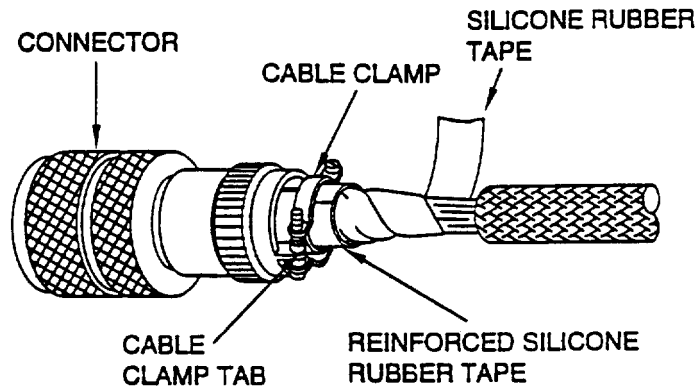

Figure 56. Accessory Tape Wrapping
j. Wrap 1 to 2 turns of non-adhesive rubber tape over exposed wires and buildup layers of rubber tape near cable clamp (Figure 56).